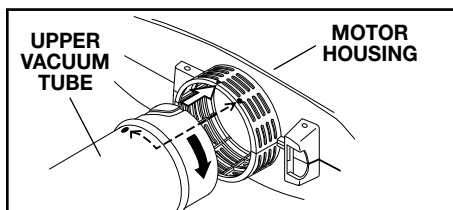

Fig. 8
- Slide the upper vacuum tube into the motor housing. Turn the tube clockwise until the dot on the tube aligns with the dot on the motor housing (Fig. 8).